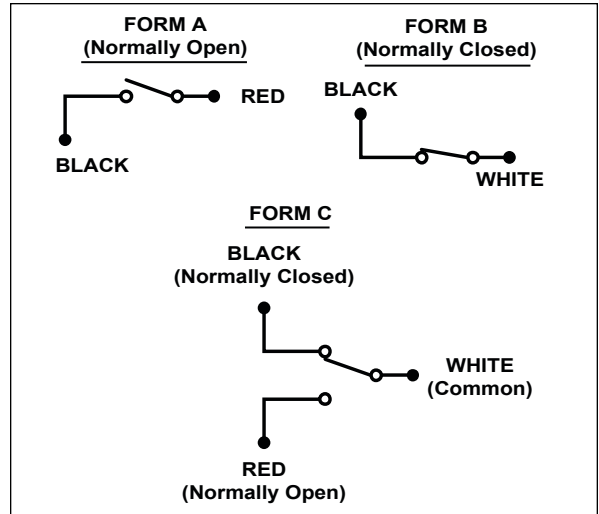

Figure 20. Form A, B & C
2. Flow Alert reed switches are available in three configurations: Form A (normally open), Form B (normally closed), and Form C (SPDT). Wire color codes and switch configurations are shown in Figure 20.